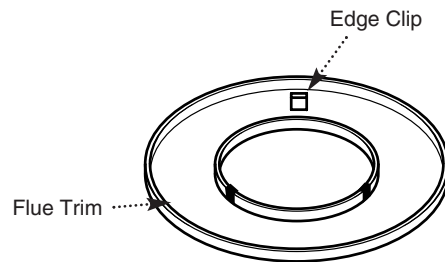

Fig. 36
- b) Take the three edge clips from the kit and fit them equi-spaced onto the inner flange of the trim (Fig. 36).